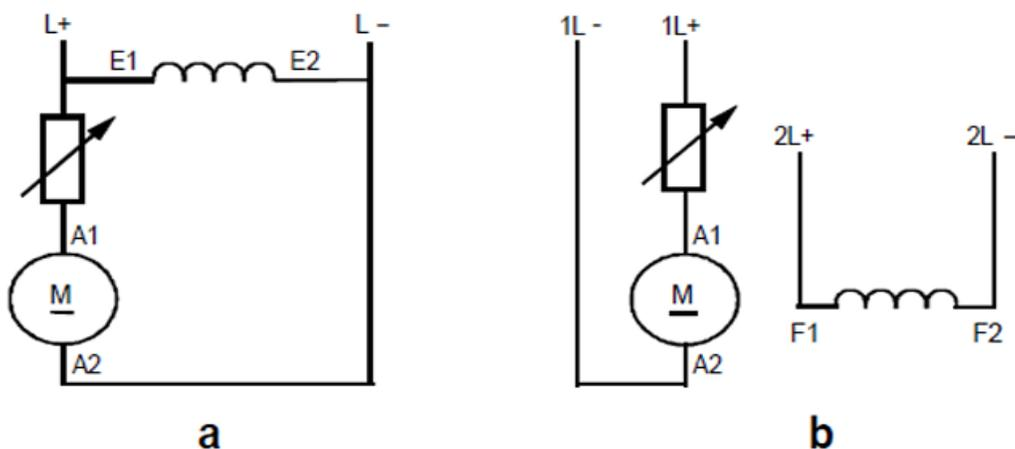

Fig.17. connection of shunt wound machine
Shunt-wound DC machines are used as generators and as motors. The shunt wound machine consists basically of the stator with the exciting winding, the rotor with the armature winding and the carbon brushes which supply the armature with current together with the commutator. The exciting winding and armature winding are connected in parallel and connected to the same voltage source (see Fig.17.
a). This type of connection is known as self – excited DC machines. The shunt wound machine can also be operated as a separately – excited machine. The exciting winding is then supplied by an own voltage source (see Fig.17. b).